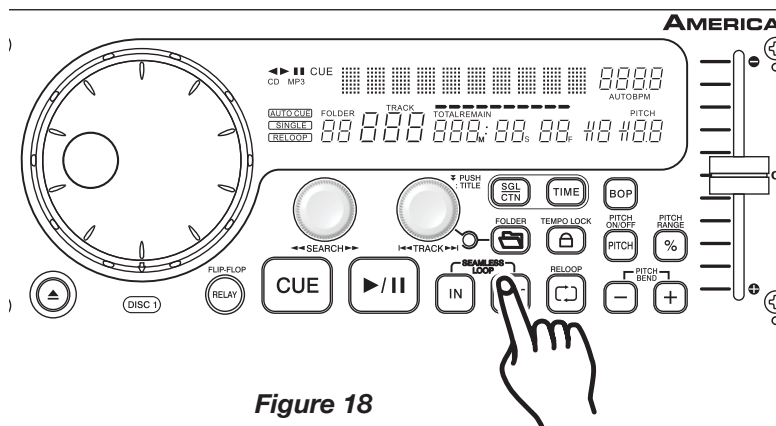

Figure 18
**EXITING A LOOP** - To exit a SEAMLESS LOOP, press the **OUT BUTTON** (16). The **IN BUTTON** (17) and **OUT BUTTON** (16) L.E.D.s will remain on, but will stop flashing. Music playback will resume normal play (Figure 18). The **IN BUTTON** (17) and **OUT BUTTON** (16) L.E.D.s will remain on to remind you that a loop is stored in memory.